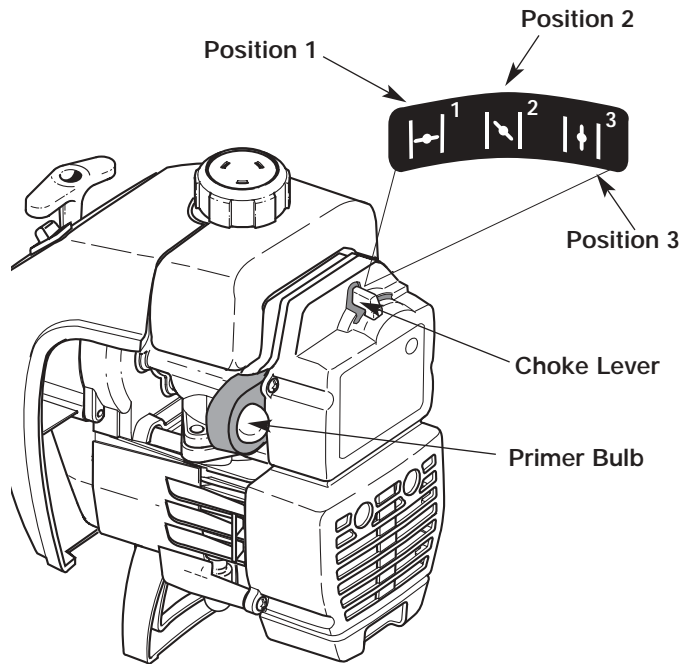

FIGURE 6
3. Fully press and release the primer bulb 10 times, slowly. Some amount of **fuel should be visible in the primer bulb** and fuel lines, Figure 6. If you can't see fuel in the bulb, press and release the bulb as many times as it takes before you can see fuel in it.
4. Place the choke lever in Position 1, Figure 6.